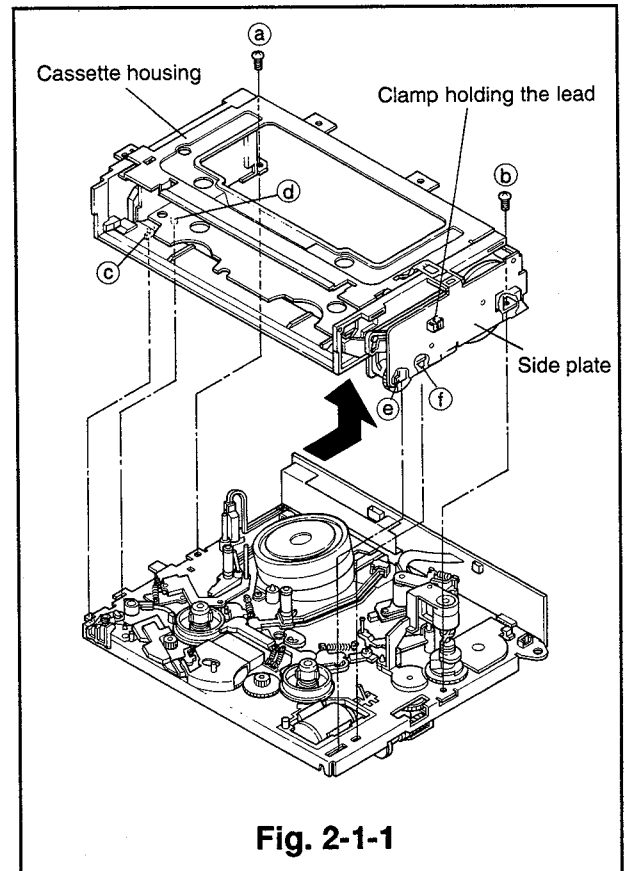
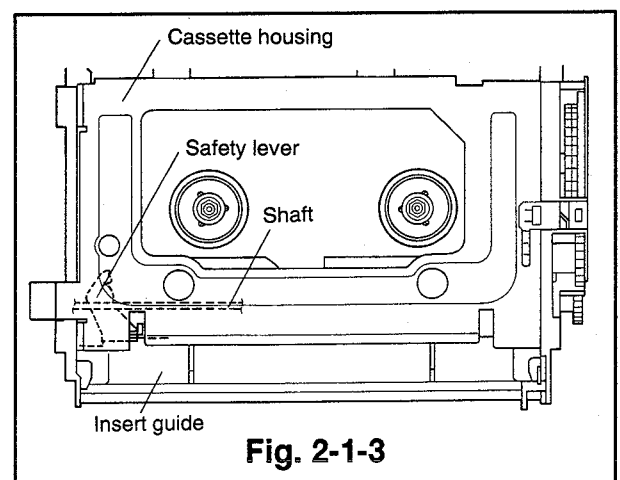
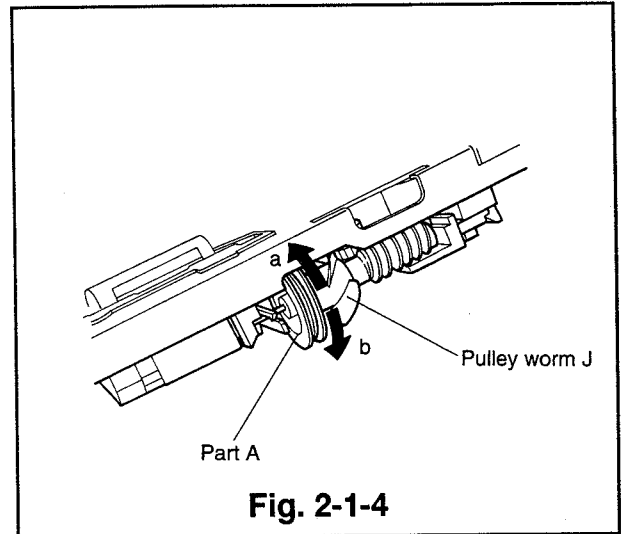

Fig. 2-1-1
Fig. 2-1-3
Fig. 2-1-4
- ① Set the VCR to the eject mode.
- ② Remove the top cover and the front panel.
- ③ Unfasten the clamp holding the lead of the loading motor, which is attached to the side plate of the cassette housing. Unscrew the two cassette housing fastening screws (a) and (b). Slowly raise the cassette housing in the direction shown by the arrow. (Refer to Fig. 2-1-1.)
- ② If the deck is not completely set to the eject mode, turn part A of the pulley worm J by hand to set the eject mode. (Refer to Fig. 2-1-4)
- ③ Slowly lower the cassette housing onto the main plate of the deck.
- ④ Make sure the record safety lever enters between the insert guide of the cassette housing and the shaft as shown in Fig. 2-1-3. Align the four points (c), (d), (e) and (f), located on the bottom of the housing with the matching holes in the deck. Secure the cassette housing on the deck with the two screws (a) and (b). (Refer to Fig. 2-1-1.)